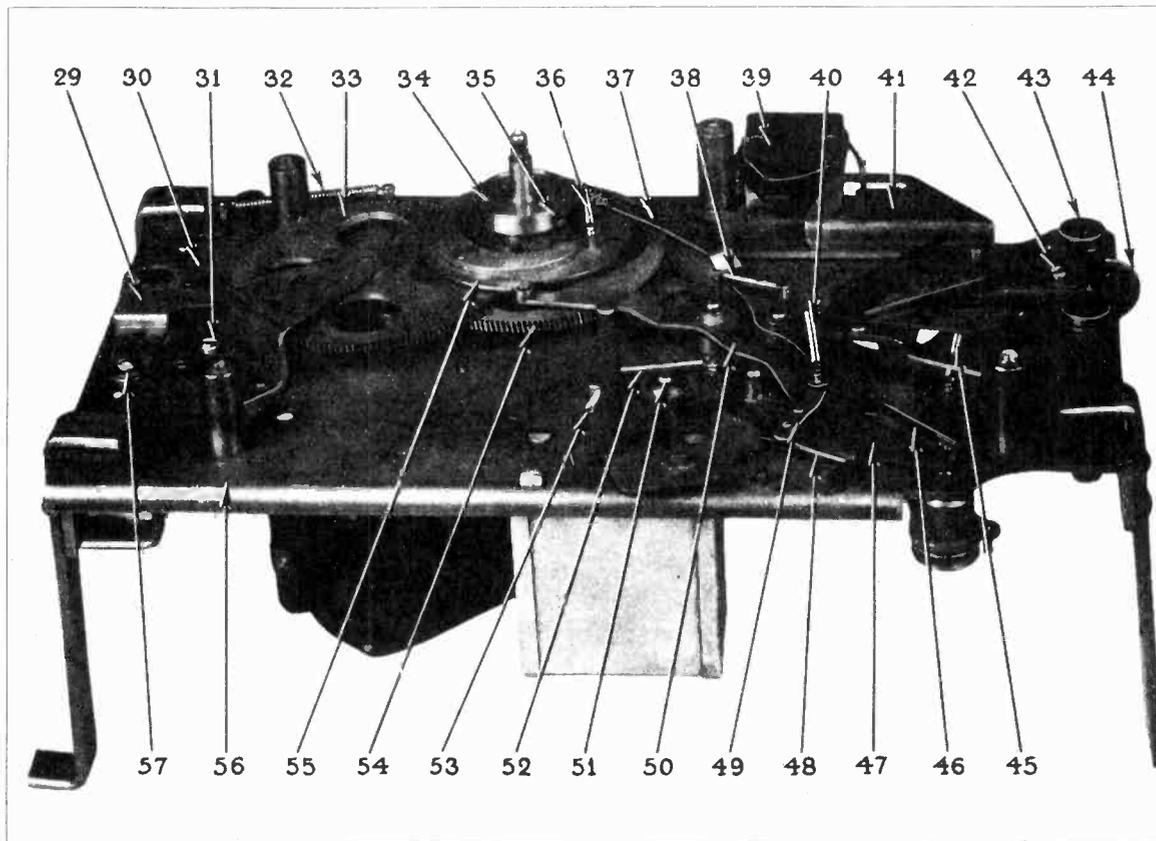
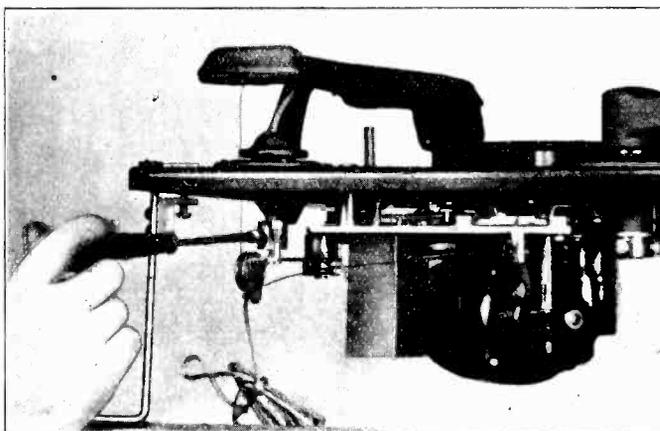
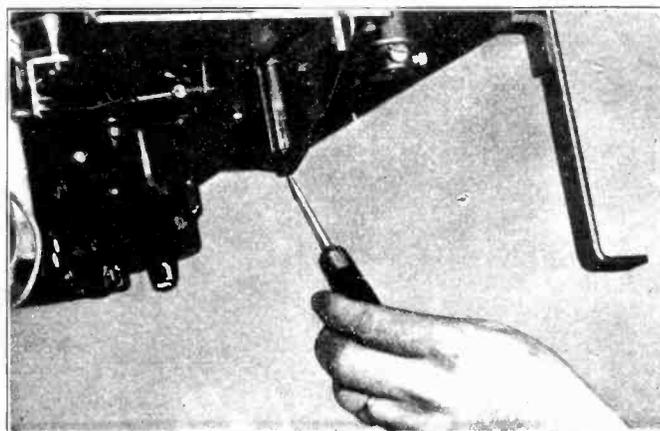
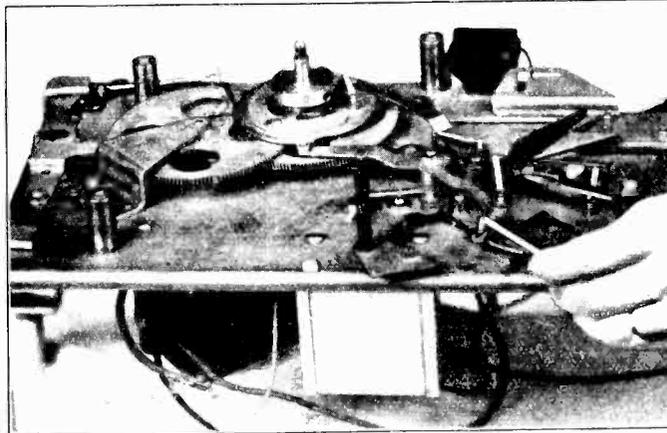

Figure 4—Top View of Automatic Mechanism with Motor Board Removed
Figure 5—Adjusting Tone Arm Setting
Figure 13—Adjusting Elevator Shafts
Figure 14—Adjusting Latch Plate
- (a) *Improper Tone Arm Setting*—Loosen the set screws as shown in Figure 5. With the mechanism out of its cycle, press the locating lever 47, Figure 4, at a point near the arrow head until the lever strikes the stop screw 53, Figure 4. Holding the locating lever in this position, move the front portion of the trip lever 15, Figure 2, until the pin, against which the flat spring operates, is making contact with the locating lever. Holding the two levers in this position, move the pickup arm until the needle is $\frac{1}{8}$ " away from the first groove of a standard 10-inch record. Now retighten the two set screws shown in Figure 5.
- (b) *Improper Adjustment of Locating Screw*—This adjustment screw shown at 53, Figure 4, can be used to make a substitute adjustment for that described in (a) above, when the mechanism is out of the cabinet, and should be so regulated that the needle will lower exactly $\frac{1}{8}$ " away from the first groove on a standard 10-inch record. Loosen the lock nut on the adjusting screw by means of a No. 4 Spintite wrench on which the shoulder has been ground sufficiently thin for clearance. Make the necessary adjustment as shown in Figure 6. *Caution—Do not attempt to make this adjustment without first loosening the lock nut since the screw will likely snap.* Tighten the lock nut when the proper adjustment has been made.
- (b) *Improper Adjustment of Elevator Shafts*—The elevator shafts 21, Figure 2, should rise to such a height as to give $\frac{3}{8}$ " clearance between the lowest surface of the elevator pad bottom and the top of the empty magazine. This adjustment can be made by means of the screw and lock nut as shown in Figure 13.
- (7) **Failure to Trip on Eccentric Groove**—Failure of the mechanism to change records when the eccentric groove is reached may be caused by:
- (a) *Improper Setting of Latch Plate*—Adjust the latch plate 49, Figure 4, by means of a small offset screw driver such as Stock No. 2930, as shown in Figure 14 until it makes proper contact with the latch trip when the eccentric groove is reached.
(10) **Failure to Stop**—Failure of the mechanism to stop after the "off" button has been pressed, and the mechanism has completed its cycle is caused by improper setting of the secondary stop switch 39, Figure 4. The switch body should be so mounted that the contacts will open $\frac{1}{8}$ " when the cycle is completed, but will close as soon as the mechanism is tripped.
- (b) Improper setting of latch plate 49, Figure 4.
- (a) *Weak Spring on Pawl Carrier*—Remove the spring 36, Figure 4, and increase its tension by removing two or three coils.
- (13) **Retiming the Mechanism**—Should it be necessary to retime the mechanism after replacing certain of the parts, or because of continued tripping, proceed in the following manner:
- (a) Allow the mechanism to operate until the slide 30, Figure 4, is in its extreme forward position. When this setting is reached the straight side of the cam 54, Figure 4, will be parallel with the side of the slide.
- (b) Loosen the set screw in the clutch wheel 35, Figure 4, and lift the wheel from the turntable spindle.
- (c) Lift the pawl carrier 55, Figure 4, until it disengages from the gears.